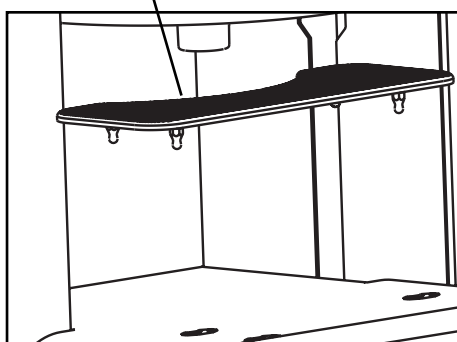

Fig 2B
4. Remove the cooling tray by lifting it from the cover. Fig. 2B